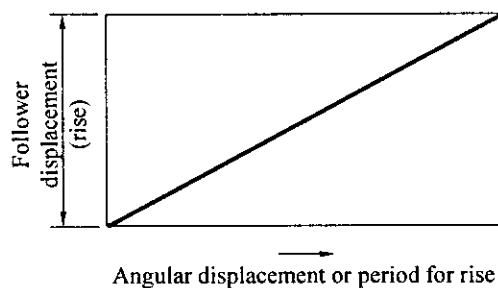

Fig. 8.6
**Uniform velocity :** This curve of polynomial family ( $n = 1$ ) is the simplest of all. It has a straight line displacement curve at a constant slope as shown in fig. 8.6. We see that the displacement is uniform, the velocity is constant, and the acceleration is zero during the rise. But at the ends where the dwell meets this curve, we have theoretically infinite acceleration. This acceleration transmits a high shock through the follower linkage. In order to have the acceleration within finite limits, it is necessary to modify the conditions which govern the motion of the follower. This may be done by rounding off sharp corners of the displacement diagram.